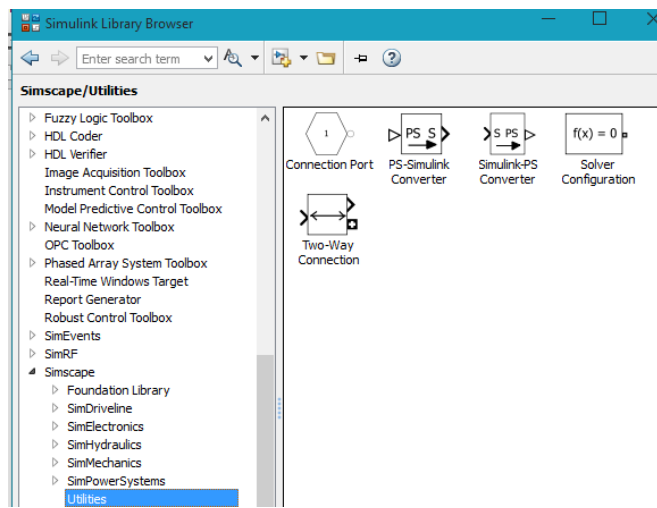
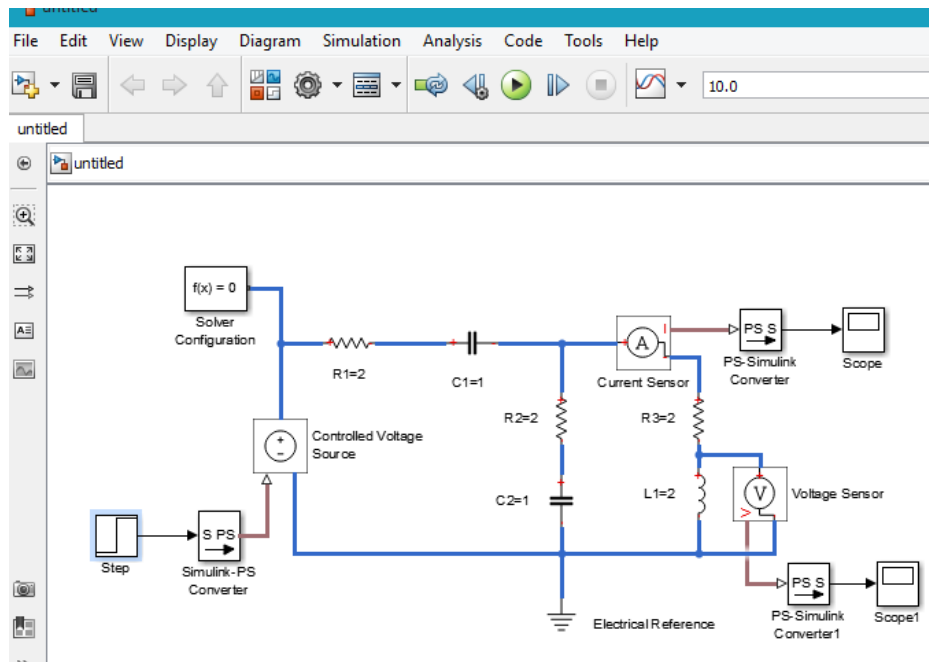

Figure 3.12: Simscape Utilities Library
Figure 3.13: Full Simscape Representation for Electrical Circuit
10. Every time you connect a Simulink source or scope to a Simscape diagram, you have to use an appropriate converter block, to convert Simulink signals into physical signals and vice versa. Open the Simscape > Utilities library figure 3.12 and copy a Simulink-PS Converter block and two PS-Simulink Converter blocks into the model. Connect the blocks as shown in figure 3.13.
11. Each topologically distinct physical network in a diagram requires exactly one Solver Configuration block, found in the Simscape > Utilities library figure 3.12. Copy this block into your model and connect it to the circuit by creating a branching point and connecting it to the only port of the Solver Configuration block. Your diagram now should look like figure 3.13.